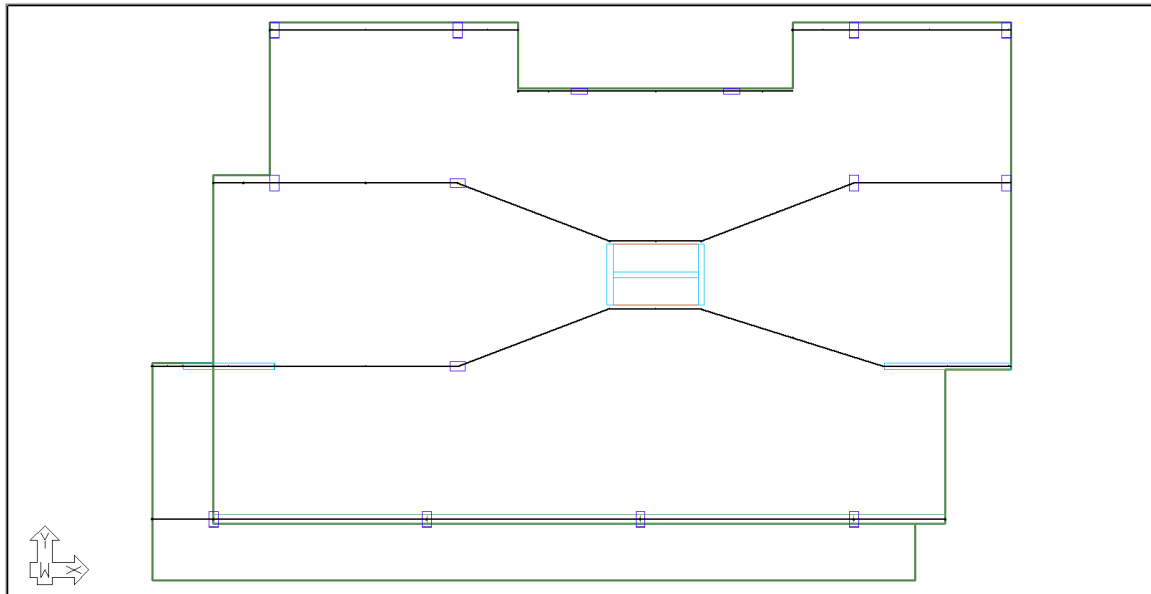

FIGURE 9-19
- Using the mouse select and move the points that coincide with the wall off the wall edge in the middle of the slab, like that shown in **FIGURE 9-19**.